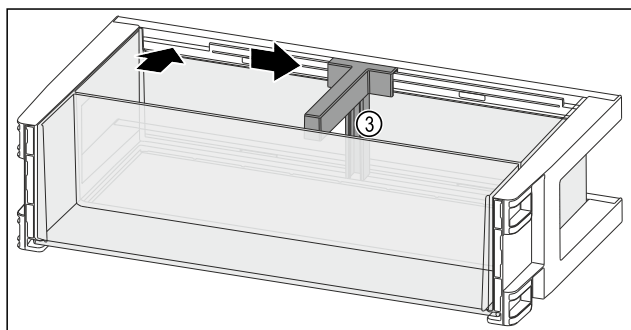

Fig. 157
- Insert the bottle holder Fig. 157 (3) into the recess.
- Push the bottle holder Fig. 157 (3) to the side into the desired position.